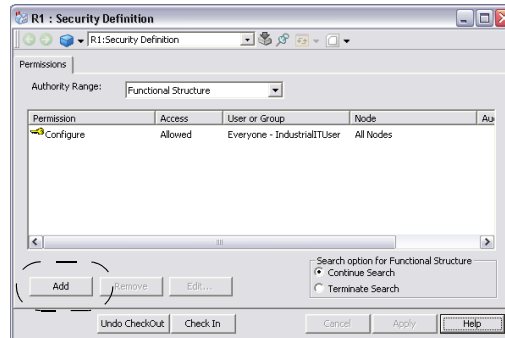

Figure 15. The Security Definition Aspects Dialog Box - Permissions
2. Select this aspect and click on the **Add** button. See Figure 15.